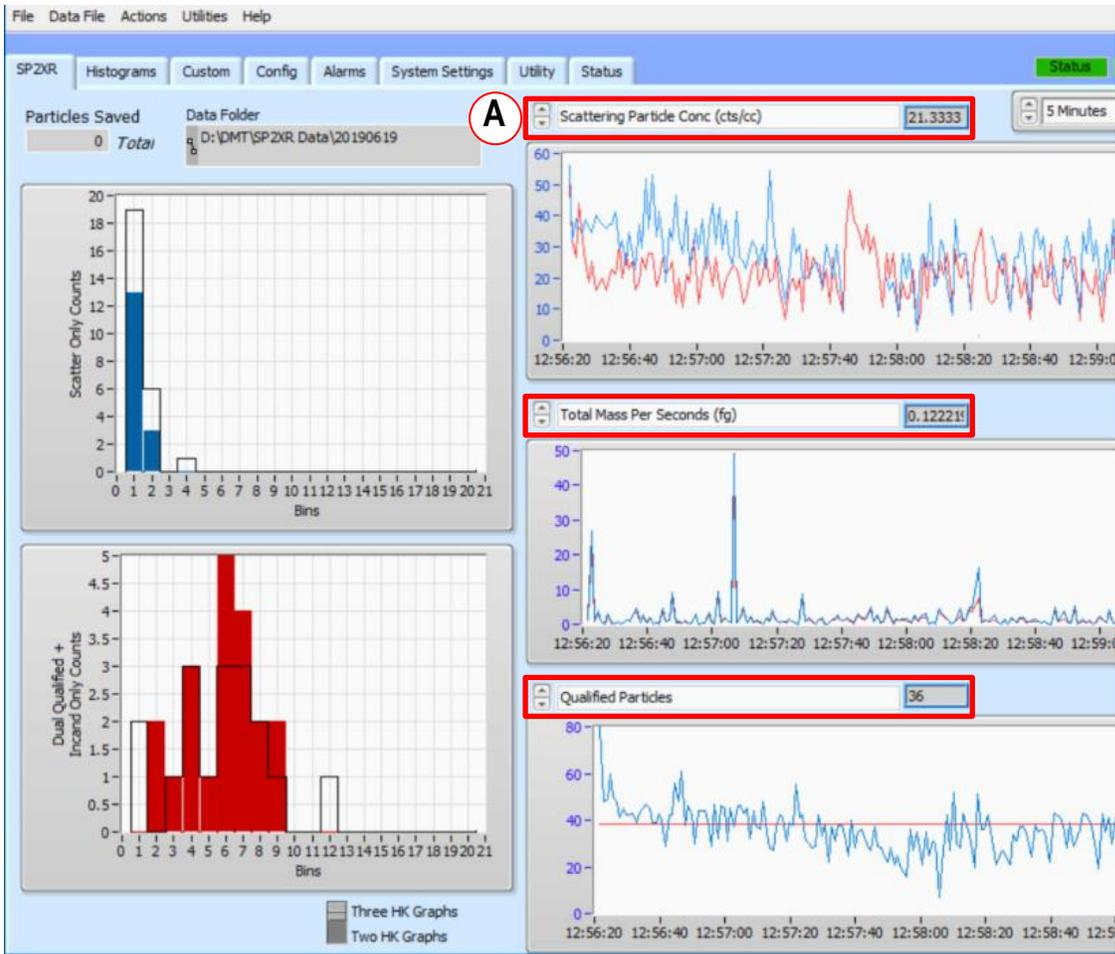

Figure 9: Choosing parameters
- Go back to the Main SP2-XR tab (Figure 9) and set parameter (A) to **“Sample Flow Controller Read, VCCM”**.